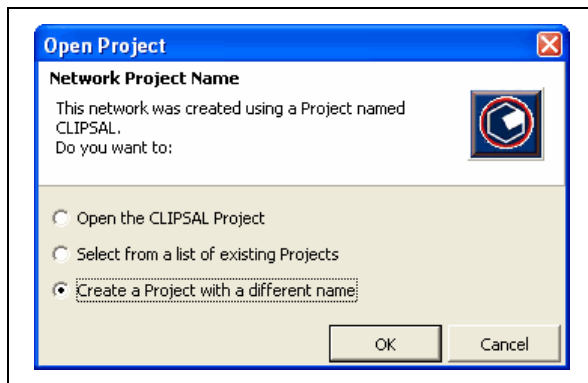

Figure 22
- 6) Once the C-Bus Toolkit finds a C-Bus network, it retrieves the Project Name from the PCI or CNI. The default Project Name for new C-Bus units is "CLIPSAL". You are then presented with three options (Figure 22). You can choose to either: